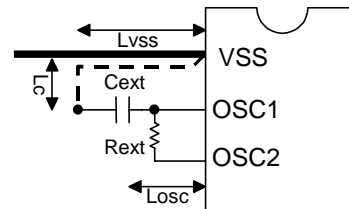

Figure 2-2. Sample Oscillation Circuit 2
- When two-pin RC oscillator option is selected: (Figure 2-2)